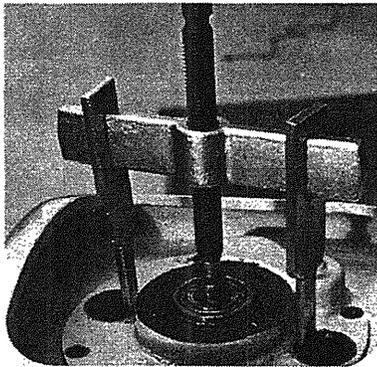

Fig. 4-4
- F. To remove the bearing carrier use a gear puller as shown in (Fig. 4-4). A light tapping in an upward motion around the perimeter of the carrier with a plastic or rubber mallet will help to break the cover loose. When the carrier has cleared the dowel pins, you can lift the carrier out of the machine with your fingers in the openings for the friction plugs.